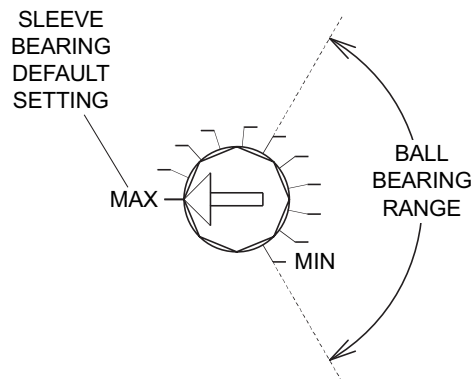

FIGURE 4 - CUT-OUT TEMPERATURE CALIBRATION
10. Adjust the "CUT-OUT" knob to the maximum. This prevents the motor RPM from dropping below the minimum for sleeve bearing. See Figure 4.